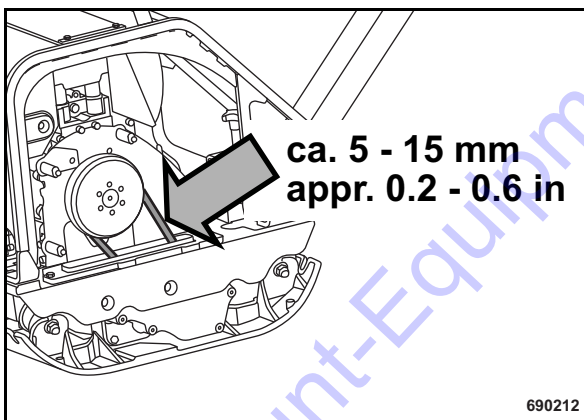

Fig. 58
- Check condition and tightness of V-belt (Fig. 58).